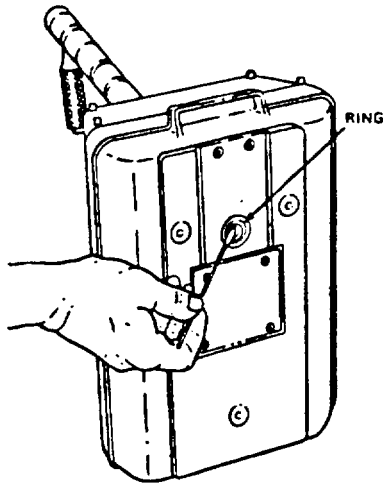

Figure 4-2. Swabbing the Ring
c. Carefully place the tester on its end or side. (See Fig. 4-2).
e. Swab the ring which is located on the bottom of the tester. Do not swab the source rod or the shutter. (See Fig. 4-2).